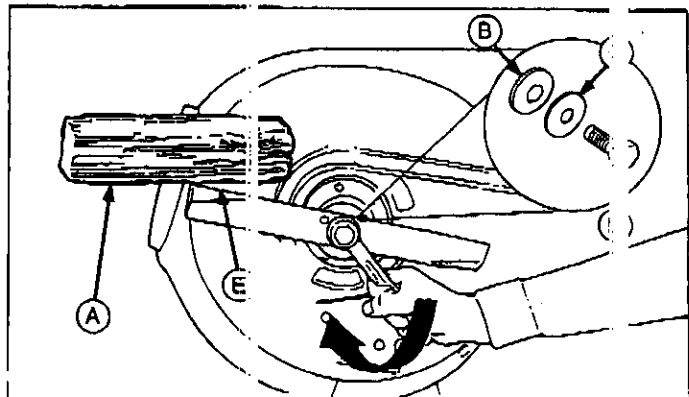

Figure 3. Blade Installation
3. Remove the capscrew (D, Figure 3), spring washer (C), hex washer (B), and blade (E).
4. Reinstall the blade with the lift wings (E, Figure 3) pointing up toward the mower deck as shown.
5. Reinstall the hex washer (B, Figure 3), spring washer (C) and capscrew (D). Use a wooden block (A) to prevent blade rotation while tightening the capscrew (D) to 45-55 ft. lbs. (61-75 N.m). Turn capscrew clockwise to tighten.